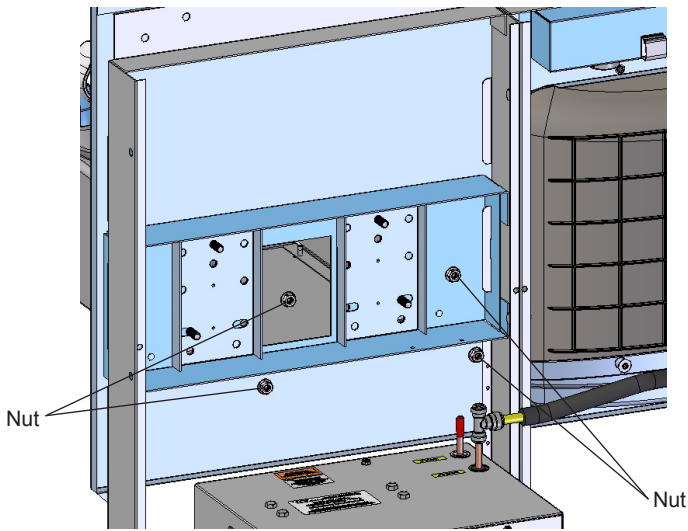

Figure 7 – Fountain Installation
7. **Install** reset switch for bottle filler (Fig. 7). Snap the switch into position after locating wires through slot. Wrap up the excess cord.
10. **Install** fountains with (4) 5/16-18 HHMS, (4) 5/16-18 nuts (from original installation) (Fig. 7). Connect the 1/4" water lines from the fountain to the remaining opening on the tee at the remote chiller (cut lines to fit as needed), (Test fit refrigerated panel to make sure there is a tight joint between it & the main panel before fully tightening mounting screws.)
- 1) To access the program button, remove the bottom lower louvered panel (Fig. 7) by removing the lower panel screws. Reset button is located on the mounting bracket.